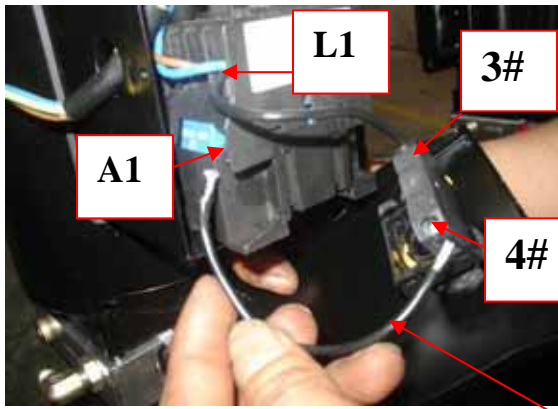
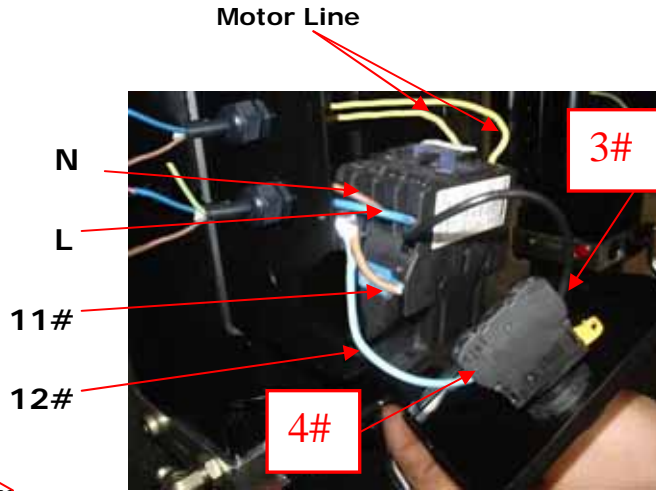

Fig. 35 Remove this line before connecting the Limit Switch
Fig. 36
4. Connecting the Limit Switch: Remove the line of Connecting Terminal **4#** on the up button and **A1** on the AC contactor (See Fig. 35). Then connect wire **12#** on the Limit Switch with Terminal **4#** on the control button and connect wire **11#** with terminals **A1** on the AC contactor (See Fig. 36).